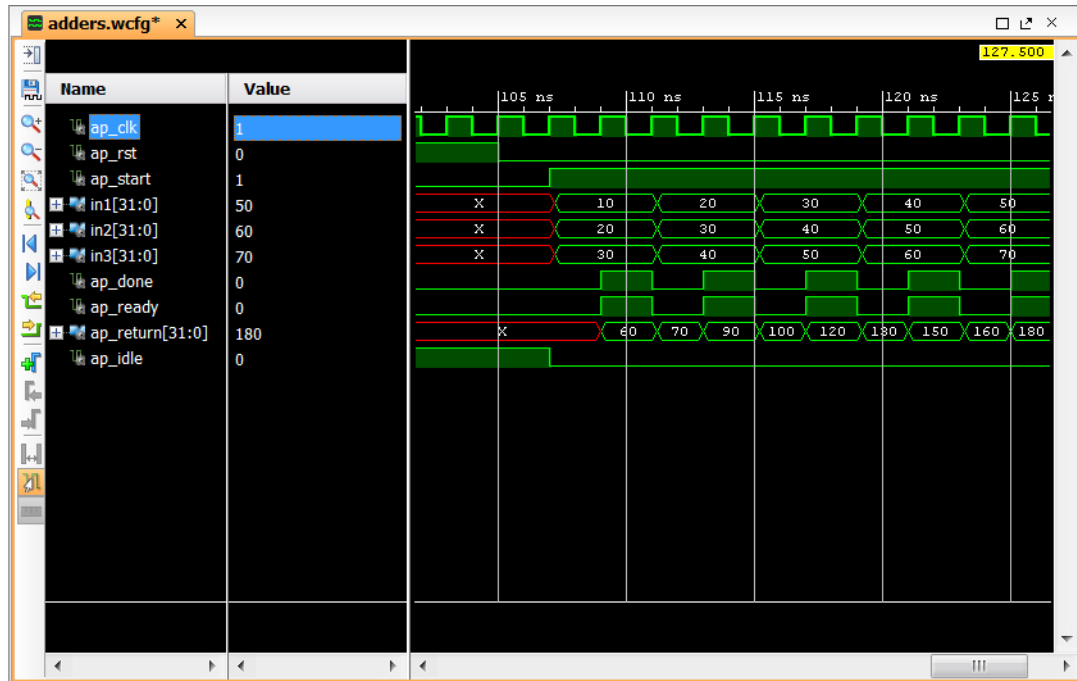

Figure 4-5: RTL Waveforms for Block Protocol Signals
The block-level I/O protocol allows the RTL design to be controlled by additional ports independently of the data I/O ports. This I/O protocol is associated with the function itself, not with any of the data ports. The default block-level I/O protocol is called `ap_ctrl_hs`. Figure 4-5 shows this protocol is associated with the function return value (this is true even if the function has no return value specified in the code).
You can observe the behavior of these signals by viewing the trace file produced by RTL CoSimulation. This is discussed in Chapter 8, RTL Verification tutorial, but Figure 4-5 shows the waveforms for the current synthesis results.
The waveforms in Figure 4-5 show the behavior of the block-level I/O signals.
**Note:** In RTL CoSimulation, all design and port input control signals are always enabled. For example, in Figure 4-5 signal ap\_start is always high.